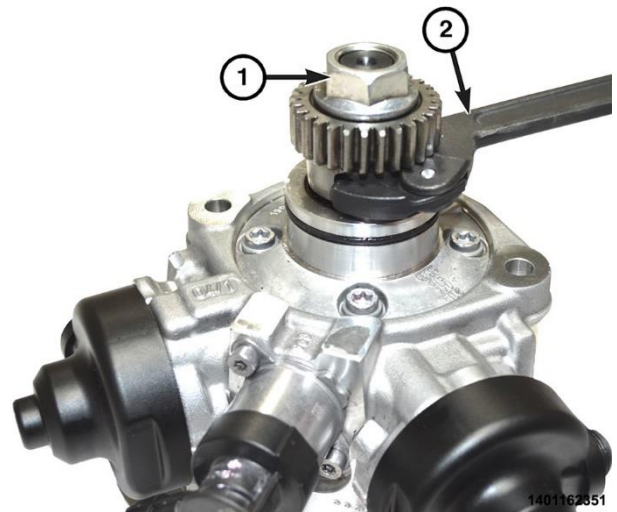

Figure 198 – Gear Nut Removal
- 43. Using a commercially available spanner wrench such as Blue Point APS351B, Snap-on APS351C or equivalent (2) and tighten the fuel injection pump gear nut (1) to 50 N·m (37 Ft. Lbs.) (Figure 198).